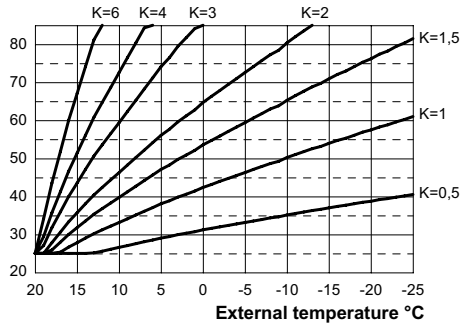
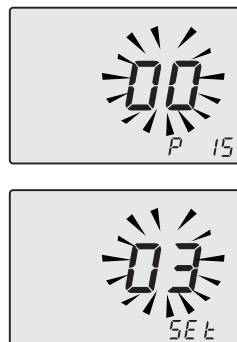

Fig. 7.16
Fig. 7.20
If the boiler is **EQUIPPED** with the remote control (optional) refer to Fig. 7.16.
When installing the external probe it is necessary to set this parameter based on the efficiency of the heating plant in order to optimise the flow temperature (Fig. 7.16).
E.g. In order to have a flow temperature at the heating plant of 60°C with an external temperature of -5°C, set a K at 1.5 (sectioned line in Fig. 7.16).
- Using keys 17 or 18 it is possible to change the value of parameter 15 from a minimum of **01** to a maximum of **60** based on the selected bend of the K coefficient in Fig. 7.16 (the value read on the display corresponds to K coefficients decimal values). The writing **P15 - SEt** alternates on the display (Fig. 7.20).